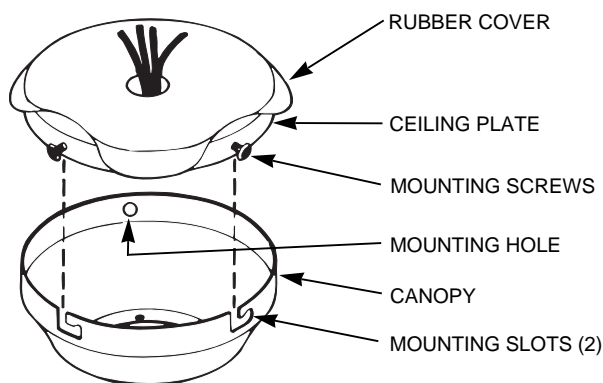

FIGURE 6
A. The ceiling plate has (3) mounting screw holes located on the side. Lift up the rubber cover and install (2) #10-32 X 1/2" Phillips round head screws halfway into two of these holes. See Figure 6.
Remove the fan from the ceiling plate hook. Make sure not to break any wire connections. The canopy has (2) mating slots and (1) mating hole. See Figure 6.